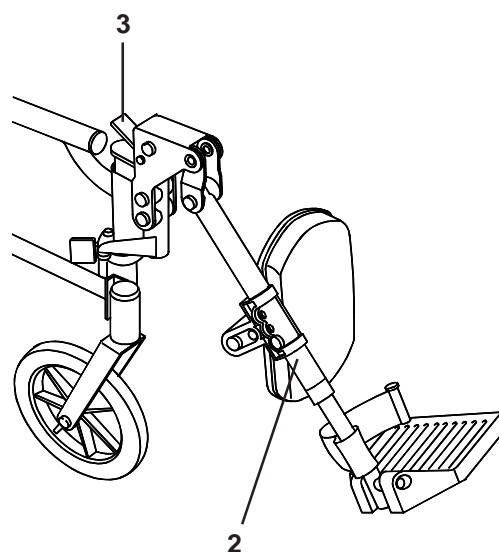

Fig. 21
To lower the legrest whilst seated in the chair push the release lever (3) forwards and lower the legrest to the desired position. Release the lever, the legrest will lock into position (Fig. 21).